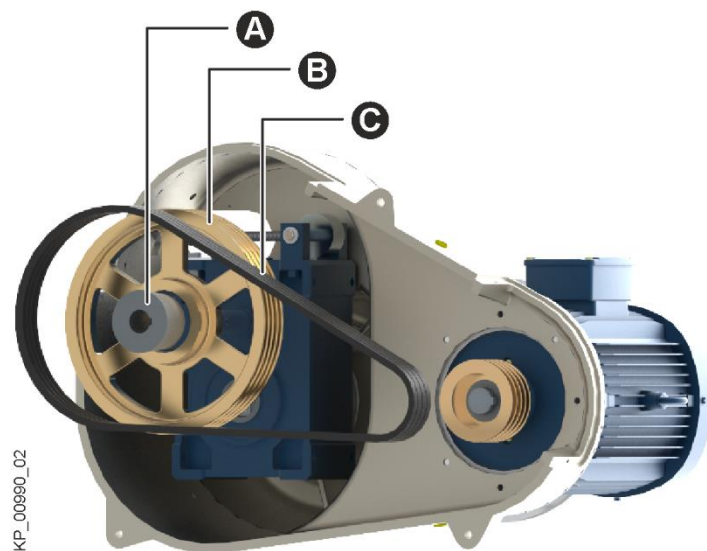

Fig. 65: Removing the belt pulley and V-belt
- Remove the V-belt (Fig. 65/C).
- Remove the V-belt pulley (Fig. 65/B).
- Mount the V-belt pulley (Fig. 65/A).
- Put on the V-belts (Fig. 65/B).